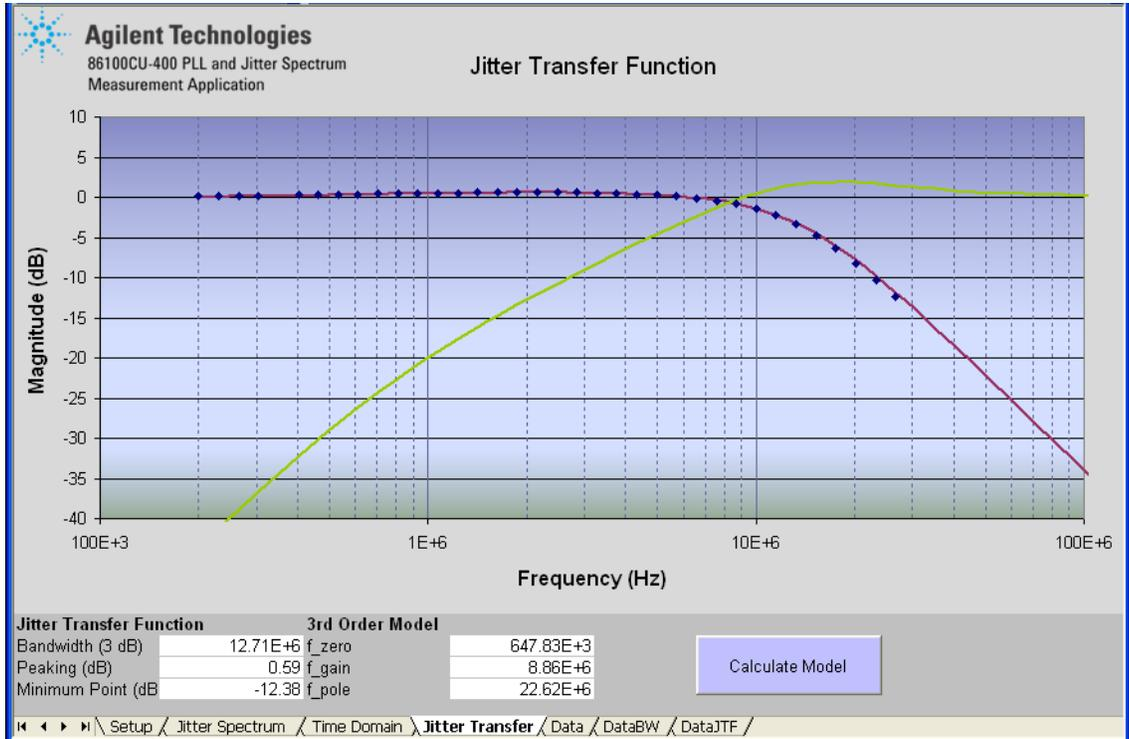

Figure 3-6. JTF Measurement Results
- 13 Click the **Calculate Model** button. A third-order type-2 PPL model is calculated from the data and displayed in the chart as shown in Figure 3-6 on page 3-9. Notice that the model’s